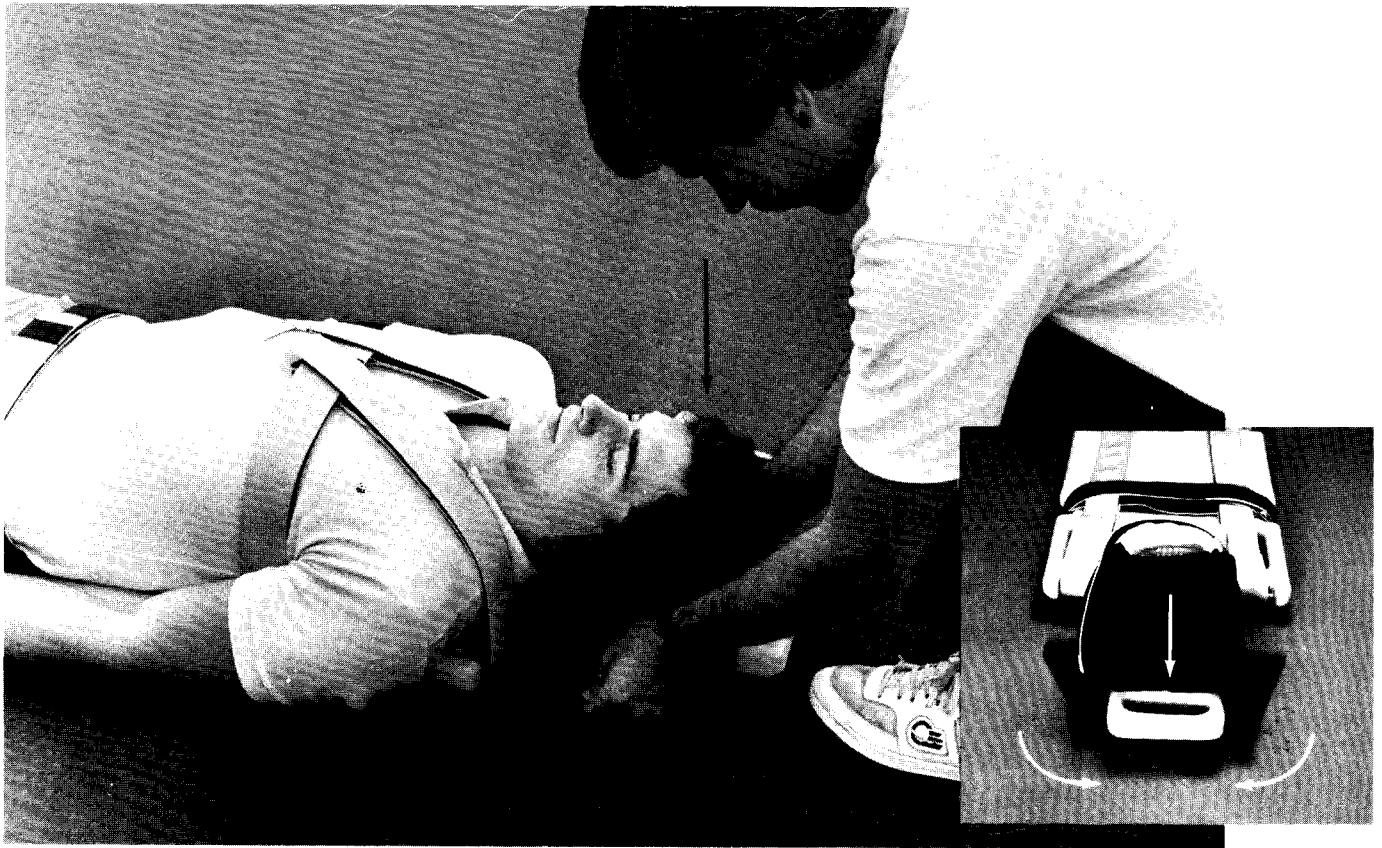

Figure 8.1
8.1 Gently press the two outer foam sections against the sides of the victim's head and connect the velcro™ flaps to the under surface of the head rest. (Figure 8.1)